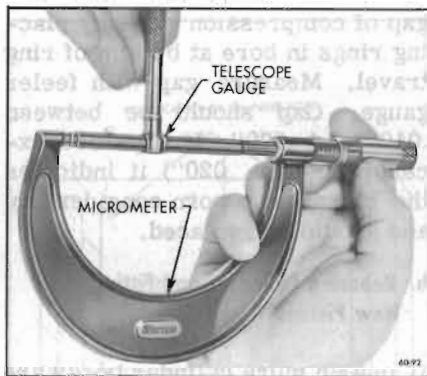

Figure 60-233—Measuring Telescope Gauge
2. Measure the telescope gauge. See Figure 60-233.